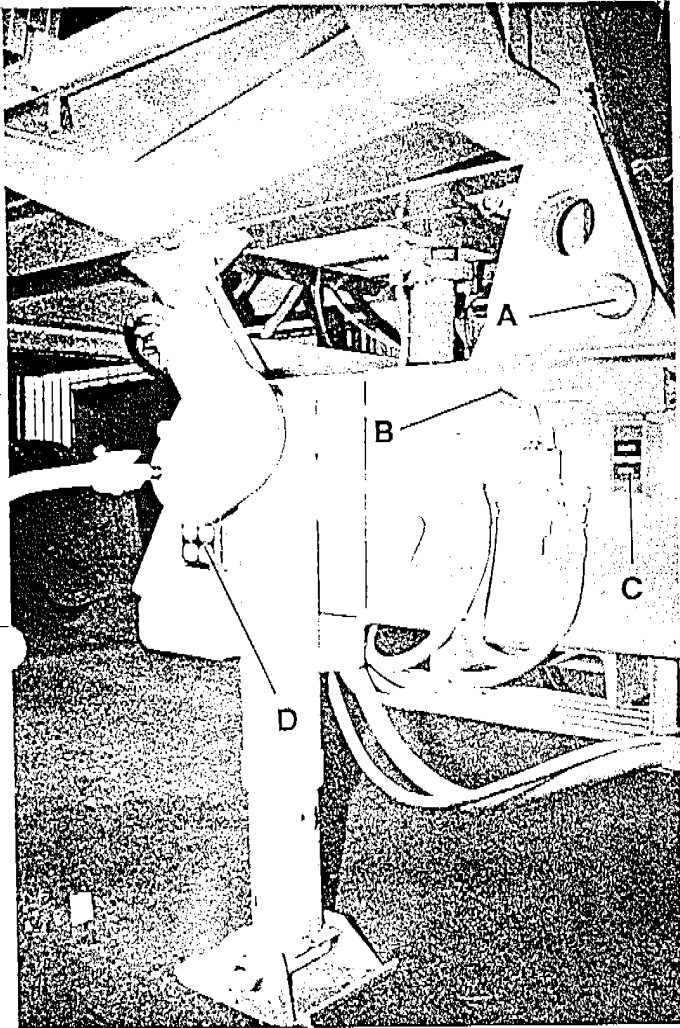

Fig. 1
2. LOWER THE FRONT LANDING GEARS TO GROUND LEVEL AND REMOVE THE TRACTOR (Fig. 1)
- a. The gooseneck is secured to the trailer frame with a large triangular hinge on each side of the gooseneck. Each hinge houses three large pins. Remove the lower rear pins (a) from the 2 triangular hinges. (Refer to Fig. 1)
- b. The hydraulic control lever (b) that raises and lowers the gooseneck is located on the left side of the trailer frame, just under the triangular hinge. Hydraulic pump start and stop buttons (c) are located in the same area. (Refer to Fig. 1)